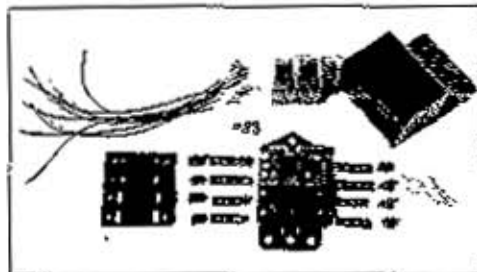

Figure 1: All the parts ready for assembly.
3. There are three insulators, one on the bottom side, and two on the top side. Also there are six insulating washers (small) that are in the metal baseplate between the insulators. (One of my insulators was broken, so I fabricated a new piece—the light colored material in Figure 1.) Save these pieces as they will be reused.
4. The four contact pieces (where the wires from the loom attach) that are designated 1, 2, 5, and 6 are cut off so they are flush with the top insulator when assembled. The insulator acts as a locator for these pieces so they don't short to the baseplate. The four straight contact pieces that go to 3, 4, 7, and 8 have locating pins that interface with the bottom insulator. The pins are inboard on 3 and 7 and outboard on 4 and 8. See the parts ready for assembly in Figure 1.
7. I prewired the terminals as shown in Figure 1. I also removed the terminal insulation, as it was difficult to get a clean shot with the rivet; as the insulator wanted to cock the terminal.